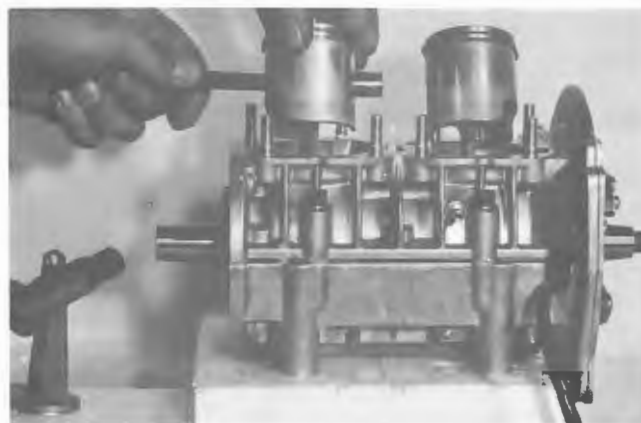

FIGURE 3-9 REMOVING PISTONS
- o. Using a suitable circlip removal tool, remove one of the two circlips securing each piston pin in position. Use a propane torch or cloth soaked in hot water and heat the pistons until warm to the touch (120° - 140°F). Use a soft drift to push the pins out from the opposite side. Remove needle bearings from connecting rods small end. (Figure 3-9)